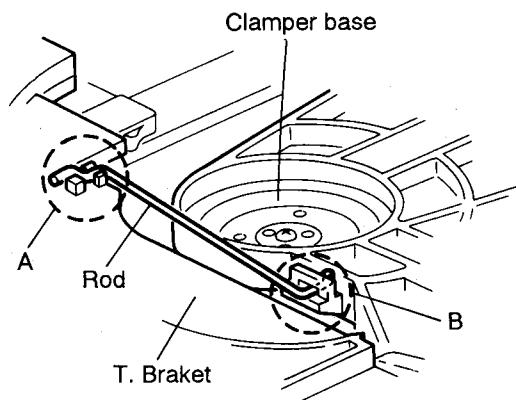
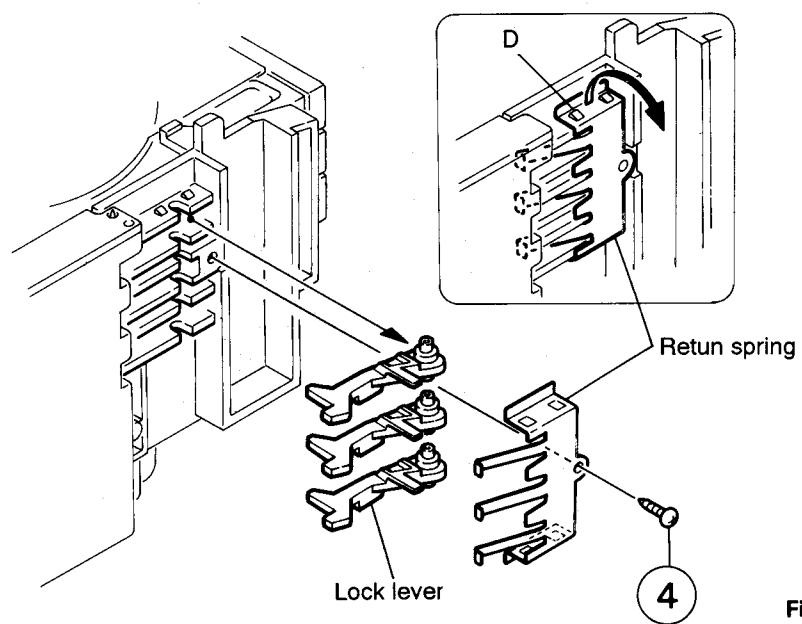

Fig. 5-32
Fig. 5-34
(See Figs. 5-32~5-38)
4. From the T. bracket section (A) and clamper base section (B), remove both of the edges fixing the rod (See Figs. 5-32 and 5-33).
5. Remove the three screws (1) retaining the T. bracket (See Fig. 5-32).
6. From the left side face of the chassis assembly, remove the one screw (4) retaining both of the return spring and lock lever.
7. By removing the pawl at the section (D) fixing the return spring, dismount the return spring (See Fig. 5-34).